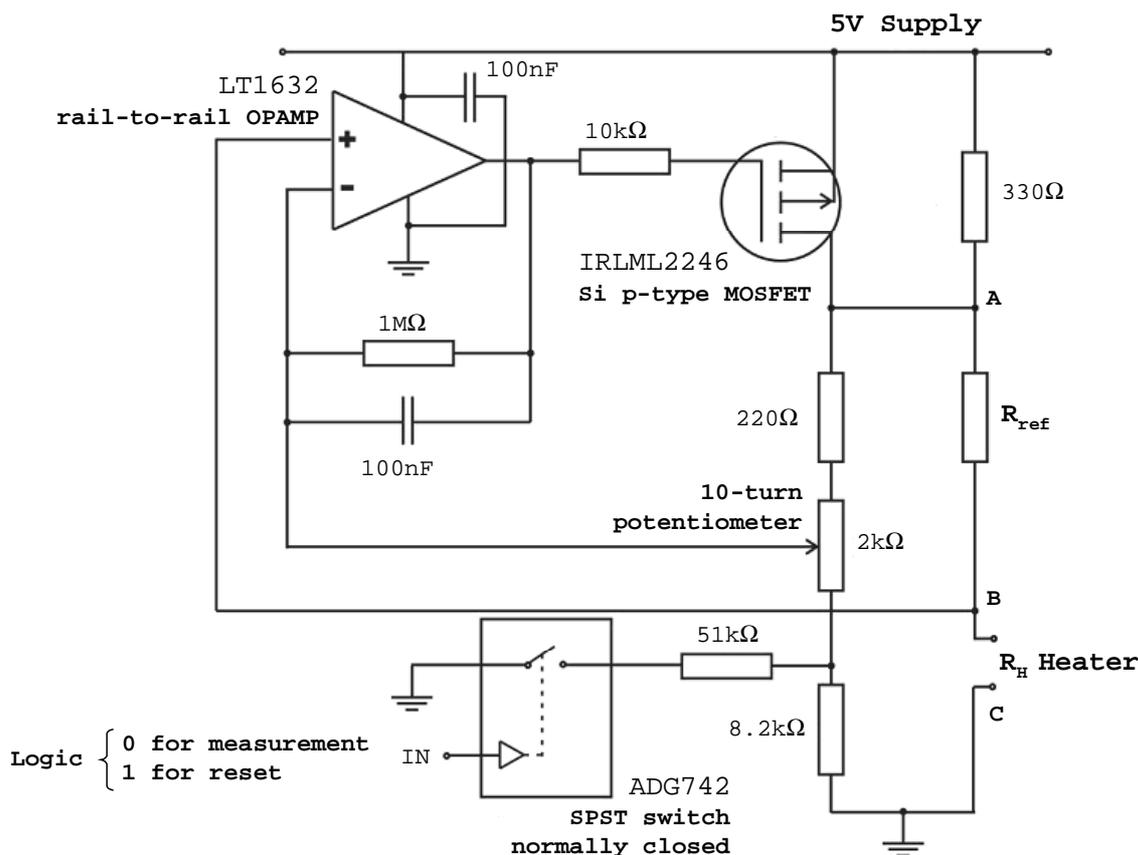

Figure 2. Wheatstone Bridge Heater Circuit
An example circuit is shown in Figure 2, with the heater component of the sensor forming part of the arm of the Wheatstone bridge. The value of the heater resistance (and thus temperature) is set by the potentiometer. As an initial starting point, the potentiometer should be in the centre of its range. We recommend a 10-turn potentiometer.
4. Fit the sensor and power the circuit with the IN input set to logic 0. Measure the voltages between points A and B (V_{AB}) and B and C (V_{BC}) shown in Figure 2. Adjust the potentiometer until you achieve the expected heater resistance (calculated in step 2). You will need to measure V_{AB} and V_{BC} throughout this process. The relationship between the heater resistance (R_H) and these variables is given by: